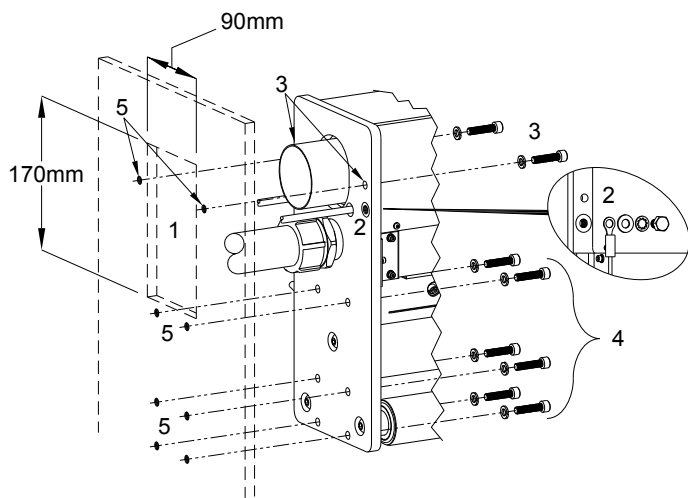

Figure 3
When mounting the station with only a single support, you will need to mount the station by the back support, and cut out an opening (1) for the Exhaust Duct, H.V Conduit, and the Remote and Interlock cables (Figure 3).